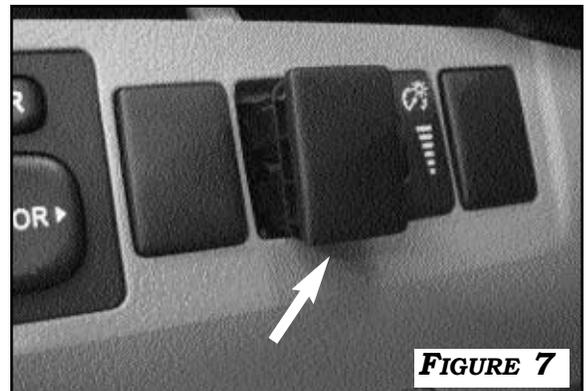

FIGURE 7
7. PRESS IN TABS TO REMOVE THE SWITCH BLANK PLUG AS SHOWN IN **FIGURE 7**.